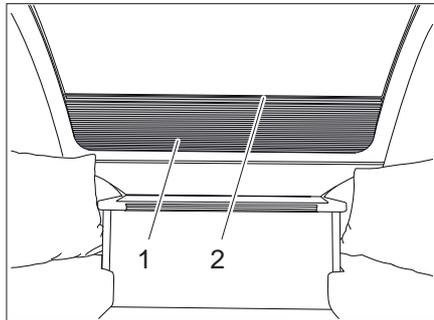

Fig. 42 Bug window blind
**Closing:** ■ Pull the blind upwards at the notch (Fig. 42,2).
**Opening:** ■ Pull the blind (Fig. 42,1) downwards at the notch (Fig. 42,2).